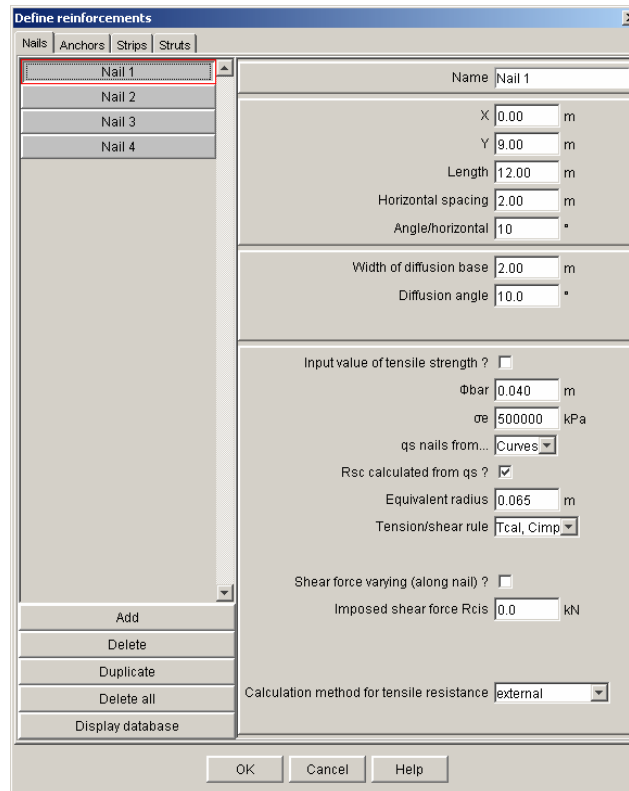

Figure 10: Reinforcements dialogue box, "Nails" tab
- In order to complete the data (or to define the nail if you did not define it on the graphical view), choose menu [Project data] then option [Reinforcements] (or right click on the nail, then select "Edit" from the pop up menu). The window of Figure 10 appears ("Nails" tab). If the nail geometry has already been defined with the mouse, it will be displayed in the left list. Complete the missing data (simple click in the corresponding cells or "Tab" key to switch from one cell to the other).